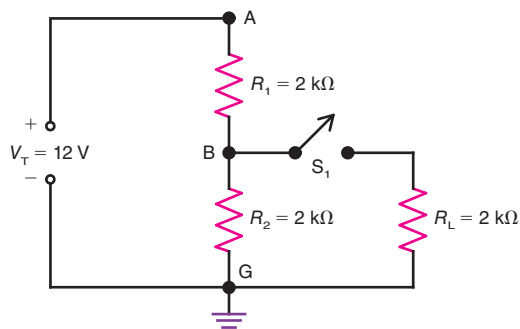

Figure 7-38
- 7.35 In Fig. 7-38, calculate I_1 , I_2 , I_L , V_{BG} , and V_{AG} with